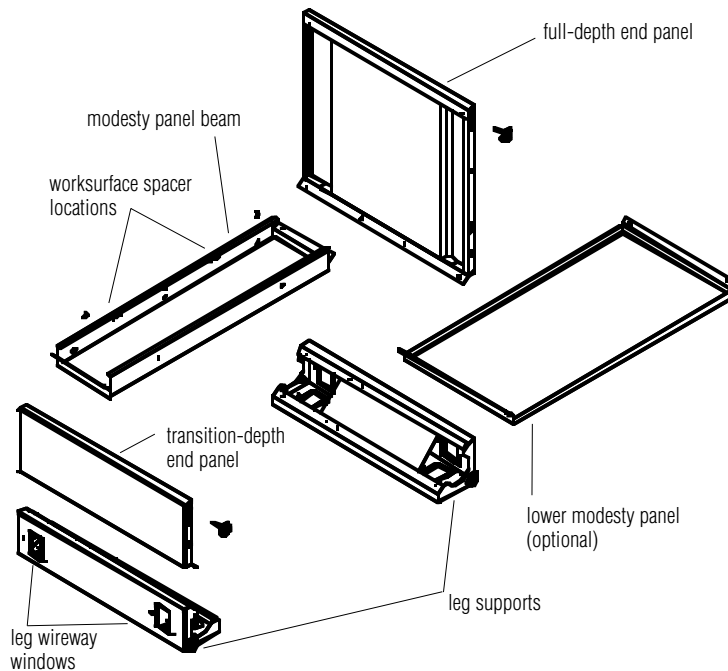

Figure 1
1. Remove all components from carton and locate hardware pack. Assemble one glide to each leg support on end with single-threaded inset. Attach leg wireway windows from inside of leg by hooking the long lip onto the rectangular cutout in leg support, flex the short lip slightly to clear cutout and push into place (Figure 1).
2. Place two leg supports on a soft surface approximately the same width as the desk. The open face of the triangular support should face up and toward the center of the workstation. Place a modesty panel beam between the leg supports, aligning holes in each flange with those of the leg supports. Secure with four ¼-20 x ½ screws (Figure 1).
3. Refer to space plan to determine whether the unit is to have full- or transition-depth end panels and their location. Align holes in end panel flange with those of the leg support. Secure with three ¼-20 x ½ screws. Assemble glide to the threaded insert facing the same direction as the leg support glides and adjust to approximately the same height (Figure 1).
If required, install lower modesty panel below modesty panel beam, aligning holes in each flange with those of the leg supports. Secure with four ¼-20 x ½ screws (Figure 1).